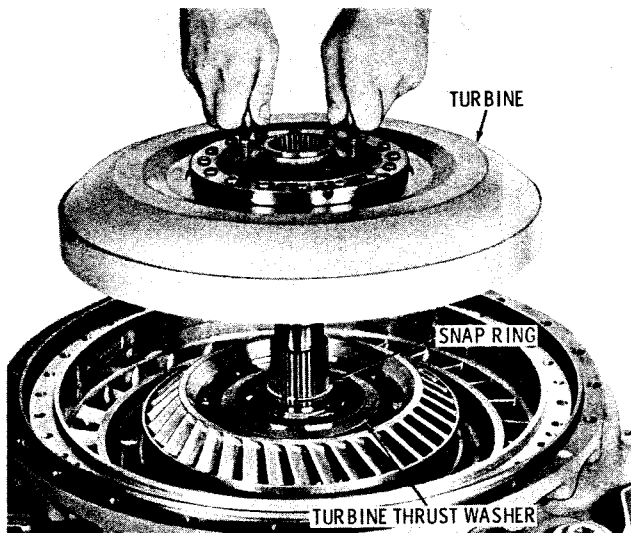

Fig. 7-41. Installing torque converter turbine
(21) On current CRT 5631 models, a single stator is used. Install the single stator following the procedures in (16), above. Check the freewheel rotation to assure proper assembly. The stator must freewheel clockwise, and lock up counterclockwise.
(22) Install the snap ring onto the turbine output shaft (fig. 7-41). Install the turbine thrust washer. Install the torque converter turbine, seating it against the snap ring. Remove the lifting bolts, if used.